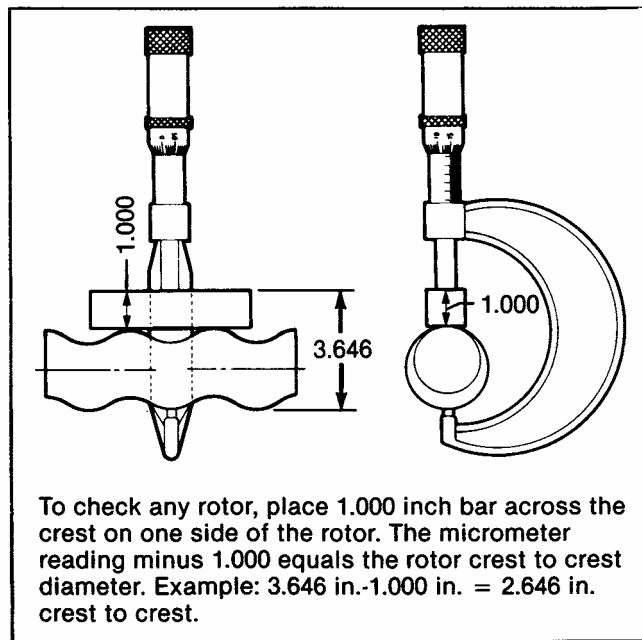

Figure 4-3. Measuring Rotor Dimension
1. To check for excessive wear of the rotor, measure the rotor crest-to-crest diameter (see Fig. 4-3) and compare it with the following chart.